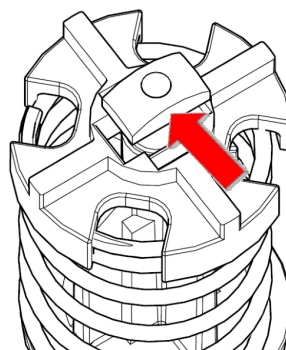

Figure 5
2. Push the bypass valve retainer down over the locking tab on the bypass valve. Push the retainer down (compressing the spring) until it is completely below the locking tab (Figure 5).